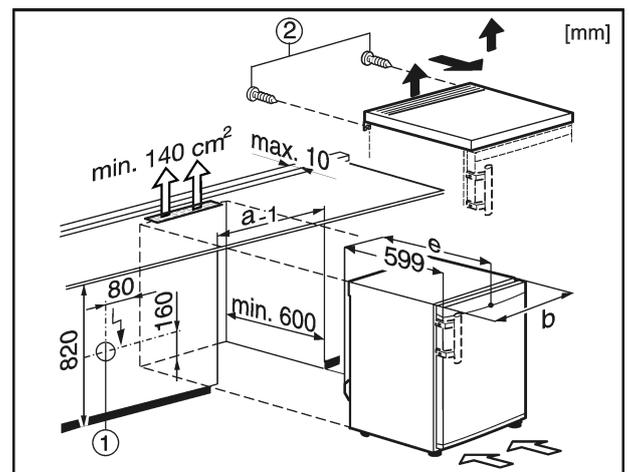

Fig. 8
With such installations, the plug Fig. 8 (1) must not be located behind the appliance and must be easily accessible.
- ▶ Remove the screws Fig. 8 (2) from the rear side.